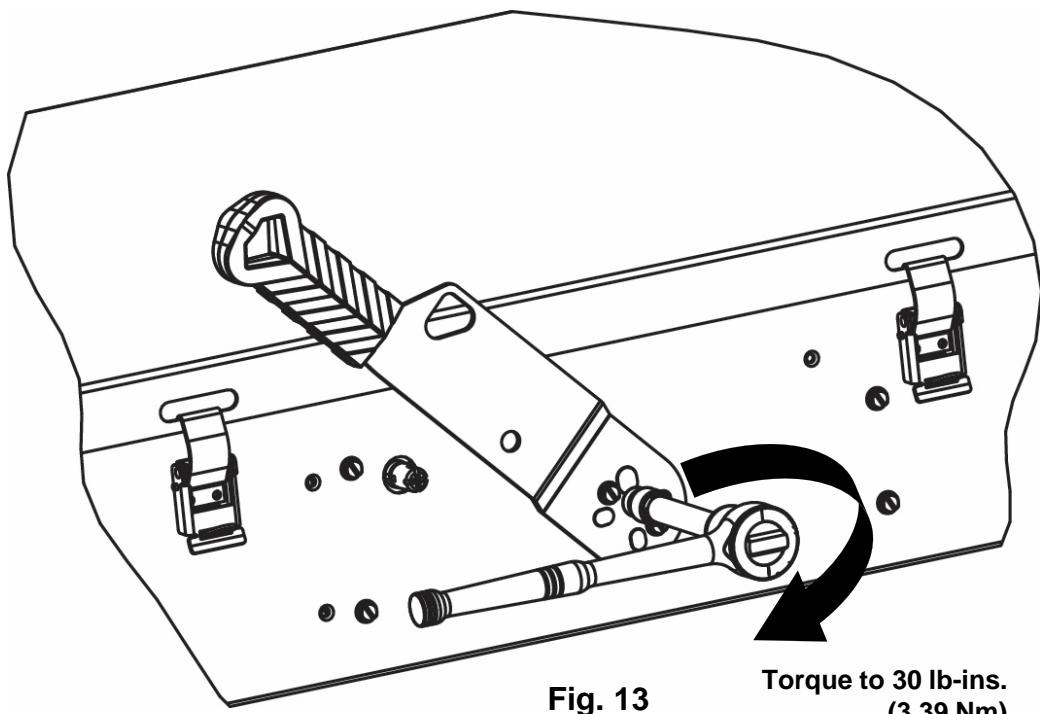

Fig. 13
11. Place the handle onto the Mechanism as shown in Fig. 13. Secure with (2) #10-32 x 0.5" screws (saved from Step 6 above).